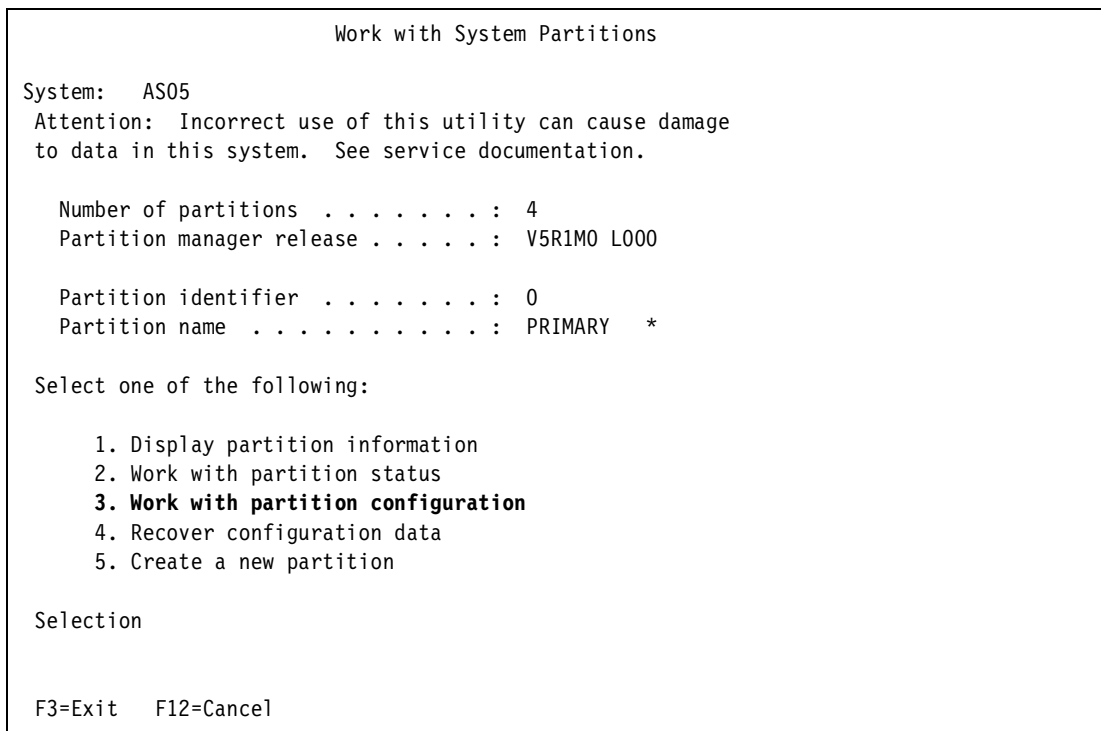

Figure 11-5 Work with System Partitions
2. On the Work with System Partitions display (Figure 11-5), select option 3 (Work with partition configuration). On a new system, there would be only the primary partition. Therefore, it would own all the resources. To allocate resources that are owned by the partition, the resources are removed from the partition that owns them before they are added to the new partition.